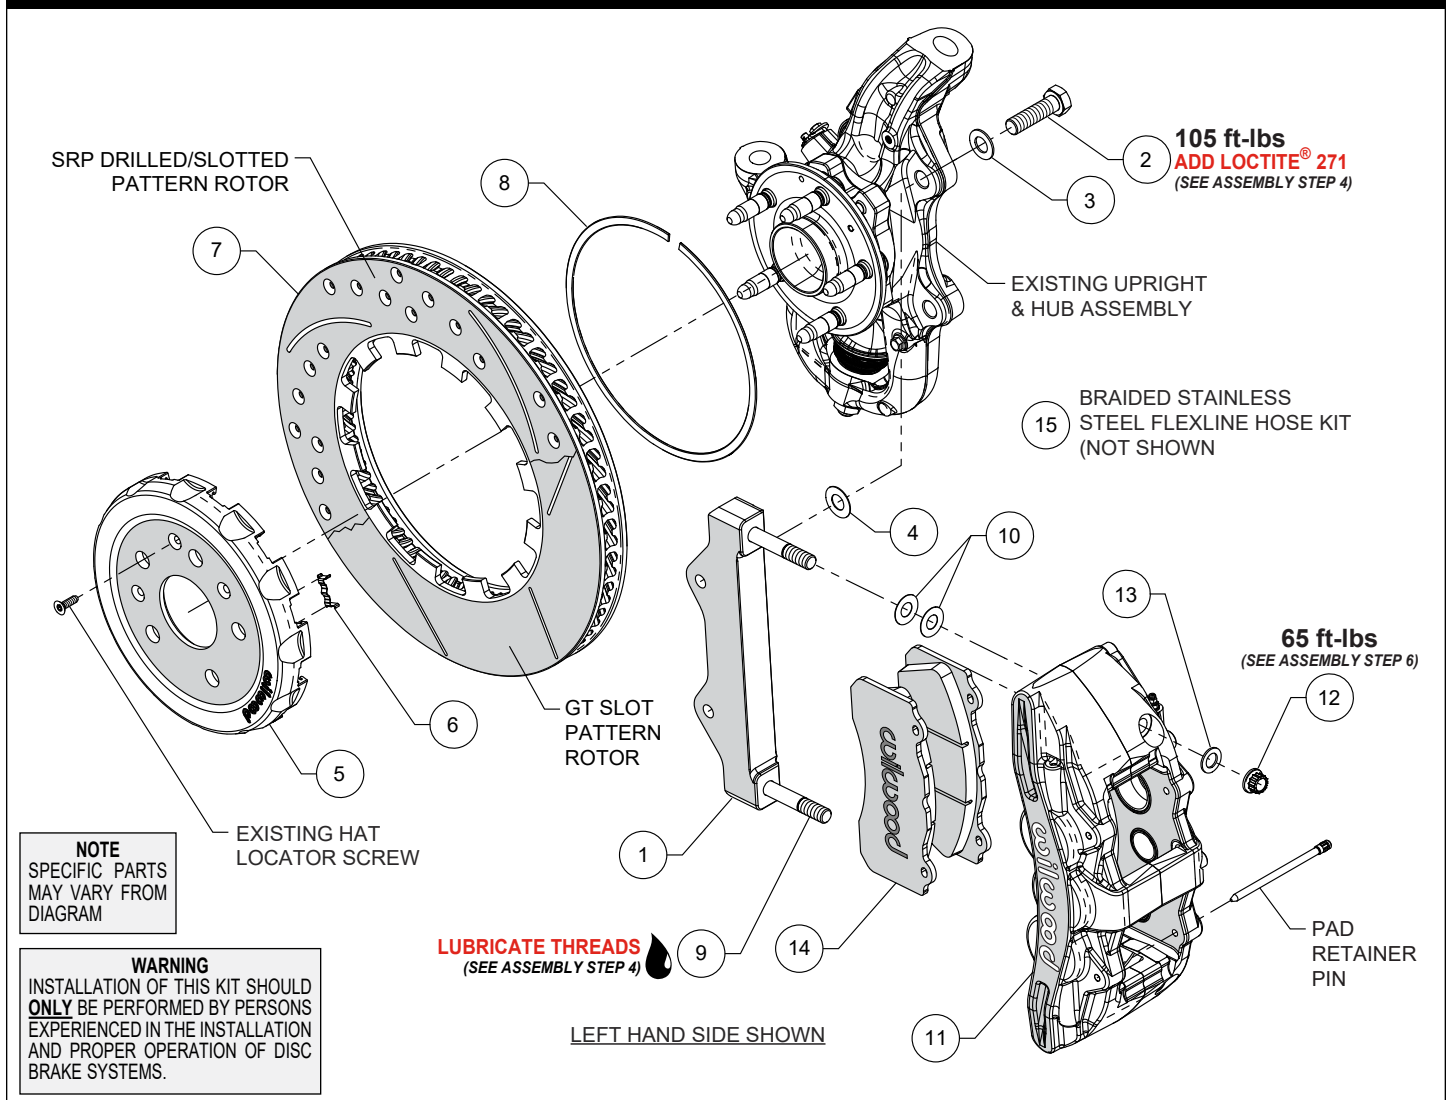

Figure 1. Typical Installation Configuration
NOTE: Numbers in parenthesis refer to the parts list and Figure 1 on the preceding pages.
STEP 1 The caliper mount bracket (1) should initially be installed with clean, dry threads on the mounting bolts. Orient the bracket, as shown in Figure 1 and Photo 1, and install using bolts (2) and washers (3). Initially place one .029" thick shim (4) on each bolt
between the bracket and upright, Figure 1. Temporarily tighten the mounting bolts. **NOTE:** The bracket must fit squarely against the mount bosses on the upright. Inspect for interference from casting irregularities, machining ridges, burrs, etc. Later, after the caliper alignment has been checked, the mount bolts will be secured using red Loctite® 271.
STEP 2 Insert the dynamic mount wear clips (6) into the slots in the hat (5), Photo 2 and 3. Orient the rotor (7) as shown in Figure 1 and Photo 4, with the flush side of mount lugs facing the hat. Secure the rotor to the hat using the snap ring (8) by simultaneously pushing down on the rotor and installing the ring into the groove in the hat, as shown in Photo 5. Carefully inspect snap ring to ensure complete engagement in the groove.
STEP 3 Slide the hat/rotor assembly onto the axle hub, Photo 6. **NOTE:** The hat must fit flush against the axle hub flange or excessive rotor run out may result. Install the hat locator screw (OEM), as shown in Figure 1, to keep the hat/rotor assembly in place while continuing with the installation.
STEP 4 **NOTE:** This kit contains distinct right and left hand calipers that must be mounted in a specific direction, as described below. Lubricate the caliper mounting studs (9) with lightweight oil. Initially place two .015" thick shims (10) on each stud between the caliper and the bracket, as shown in Figure 1 and Photo 7. Mount the caliper (11) onto the bracket (1) using lock nuts (12) and washers (13), Figure 1. Temporarily tighten the lock nuts. Ensure that the caliper is mounted so the largest pistons are at the rotor exit end of the caliper, in relation to the forward direction of the rotor. View the rotor through the top opening of the caliper.
The rotor should be centered in the caliper, Photo 8. If not, adjust by adding or subtracting shims (4) between the bracket and the upright. Always use the same amount of shims on each of the two mounting bolts. Once the caliper alignment is correct, remove the bracket mounting bolts (2) one at a time, apply red *Loctite*® 271 to the threads, and torque to value shown in Figure 1.
STEP 5 Remove the caliper (11) from the bracket (1), then remove the two pad retaining pins from the caliper. Insert the brake pads (14) into the caliper from the bottom side, with the friction material facing the rotor, as shown in Photo 9. Secure the brake pads in place
with the pad retaining pins, Figure 1 and Photo 10. **CAUTION:** *Ensure pad retaining pins are completely engaged into caliper.* It is recommended to use a small flat punch and hammer to tap the pins in until they are fully seated.
STEP 6 Reinstall the caliper onto the caliper mounting bracket and temporarily tighten the lock nuts (12). Check that the top of the brake pad is flush with the outside diameter of the rotor, Photo 11. If not, adjust by adding or subtracting shims (10) between the caliper and the bracket. After the caliper pad height is set, torque the caliper lock nuts (12) to value shown in Figure 1.
STEP 8 Attach supplied brake line to caliper. **NOTE:** *OEM rubber brake hoses generally cannot be adapted to Wilwood calipers.* Install Wilwood's stainless steel braided flexline hose kit (15), P/N 220-17008 included with this kit, Photo 12. The caliper inlet fitting is a 1/8-27 NPT. Use the included steel adapter fitting at the caliper (use PTFE tape on the pipe threads of adapter fitting for proper sealing to caliper). **Ensure hoses are routed to prevent contact with moving suspension, brake or wheel components.**